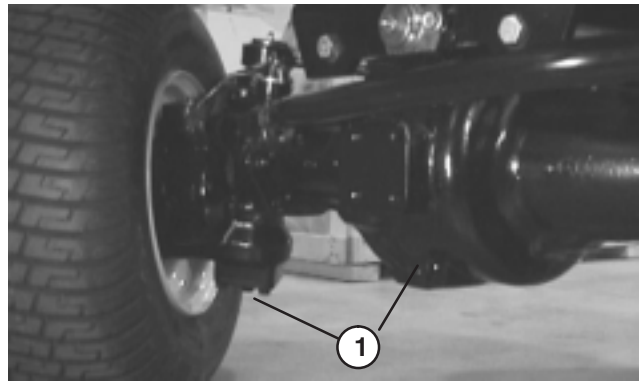

Figure 44
(Fig. 44)
2. Clean area around the (3) drain plugs, (1) on each end and (1) in the center (Fig. 44).